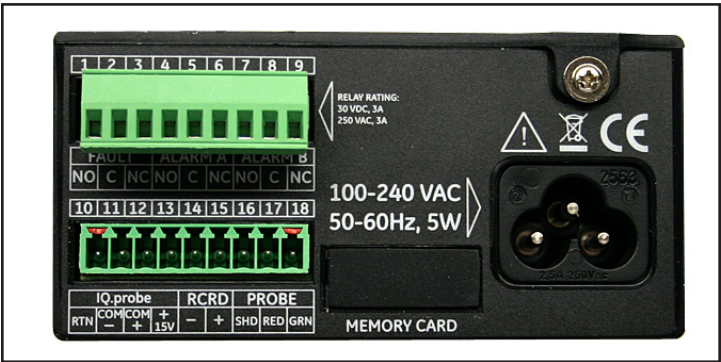

Figure 27: Bottom Connector Removed
- 2. Remove the connector from the lower terminal block on the rear of the dew.IQ (see Figure 27 below).
Refer to Table 2 below to connect your analog recorder to pins 14 and 15 on the lower terminal block on the back of the **dew.IQ** (see Figure 22 on page 22 or Figure 27 on page 25).